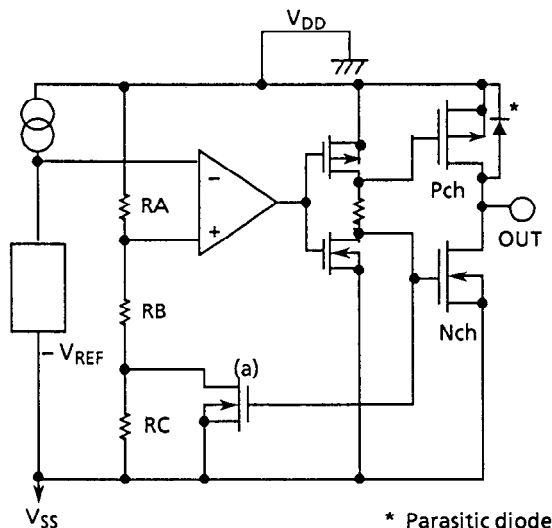
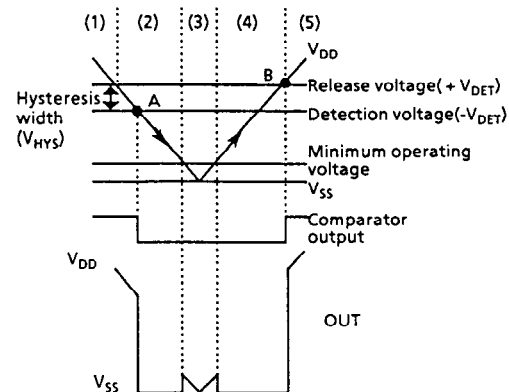

Figure 13
Figure 14
Hysteresis width is the voltage difference between a device's detection voltage and its release voltage (see Figure 14.  $V_{HYS} = B - A$ ). By giving a device hysteresis, erroneous toggling of the output due to noise at the input is avoided.
- (1) When power supply voltage  $V_{DD}$  is greater than the release voltage  $+V_{DET}$ , the Nch transistor is OFF and the Pch transistor ON, causing  $V_{DD}$  (high) to appear at the output. With the Nch transistor of Figure 13 (a) off, the comparator input voltage is  $(RB + RC)/(RA + RB + RC) \times V_{DD}$ .
- (2) When power supply voltage  $V_{DD}$  goes below  $+V_{DET}$ , the output continues to maintain the power supply voltage level, as long as  $V_{DD}$  remains above the detection voltage  $-V_{DET}$ . When  $V_{DD}$  does fall below  $-V_{DET}$  (A in Figure 14), the Nch transistor goes ON, the Pch transistor goes OFF, and  $V_{SS}$  appears at the output. With the Nch transistor of Figure 13 (a) ON, the comparator input voltage is  $RB/(RA + RB) \times V_{DD}$ .
- (3) When  $V_{DD}$  falls below the minimum operating voltage, the output becomes undefined. However, output will revert to  $V_{DD}$  if a pull-up has been employed.
- (4)  $V_{SS}$  will again be output when  $V_{DD}$  rises above the minimum operating voltage.  $V_{SS}$  will continue to be output even when  $V_{DD}$  surpasses  $-V_{DET}$ , as long as it does not exceed the release voltage  $+V_{DET}$ .
- (5) When  $V_{DD}$  rises above  $+V_{DET}$  (B in Figure 14), the Nch transistor goes OFF, the Pch transistor goes ON, and  $V_{DD}$  appears at the output.